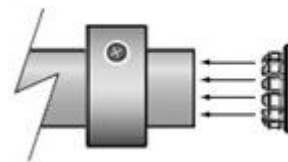

Fig. 5
- Install the End Cap by pressing it into the end of the pipe (Figure 5).